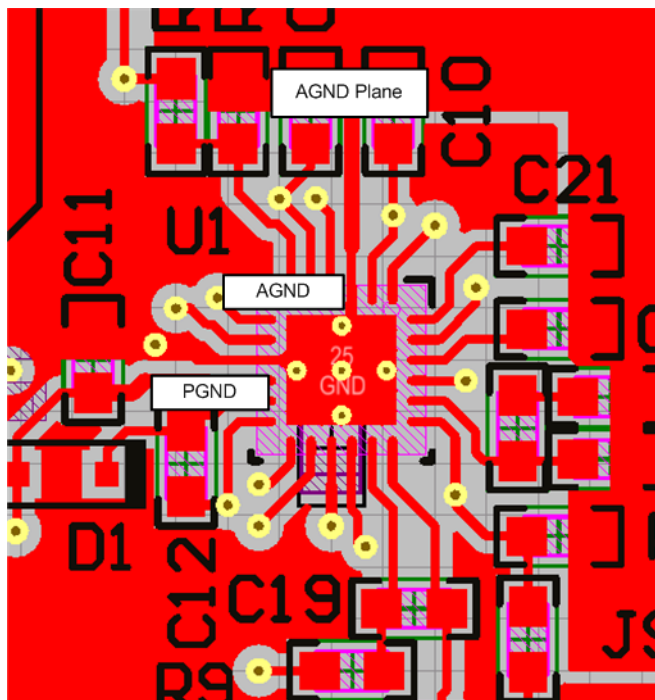

Figure 40. AGND and PGND Connections
- Make the PGND and AGND connections to the LM5141 controller as shown in Figure 40. Create a power grounds directly connected to all high-power components and an analog ground plane for sensitive analog components. The analog ground plane (AGND) and power ground plane (PGND) must be connected at a single point directly under the IC (at the die attach pad or DAP).